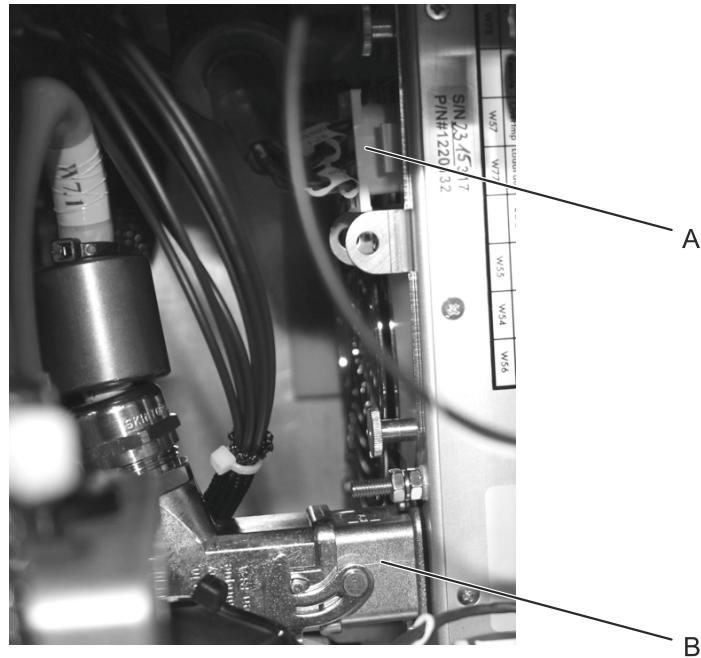

Figure 72: Disconnecting the HV power supply
4. Disconnect the Harting mains power plug from the HV power supply (see Figure 72; B).